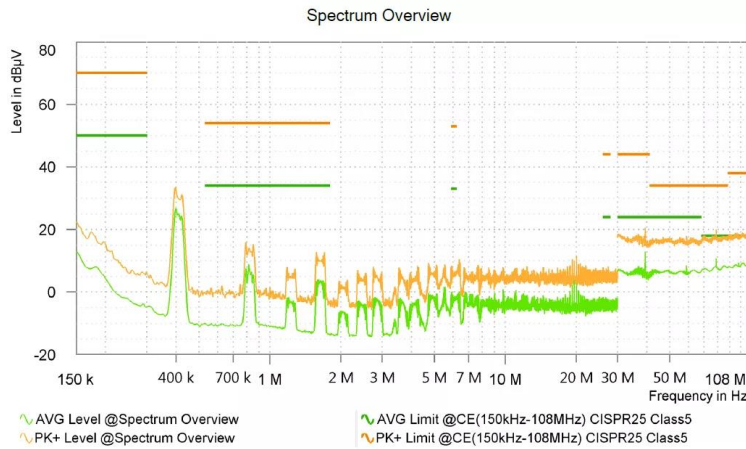

Figure 3: EMC Conducted Emission (CE) Test of the MPQ3367
Figure 3 shows the MPQ3367's EMC conducted emission (CE) test results.